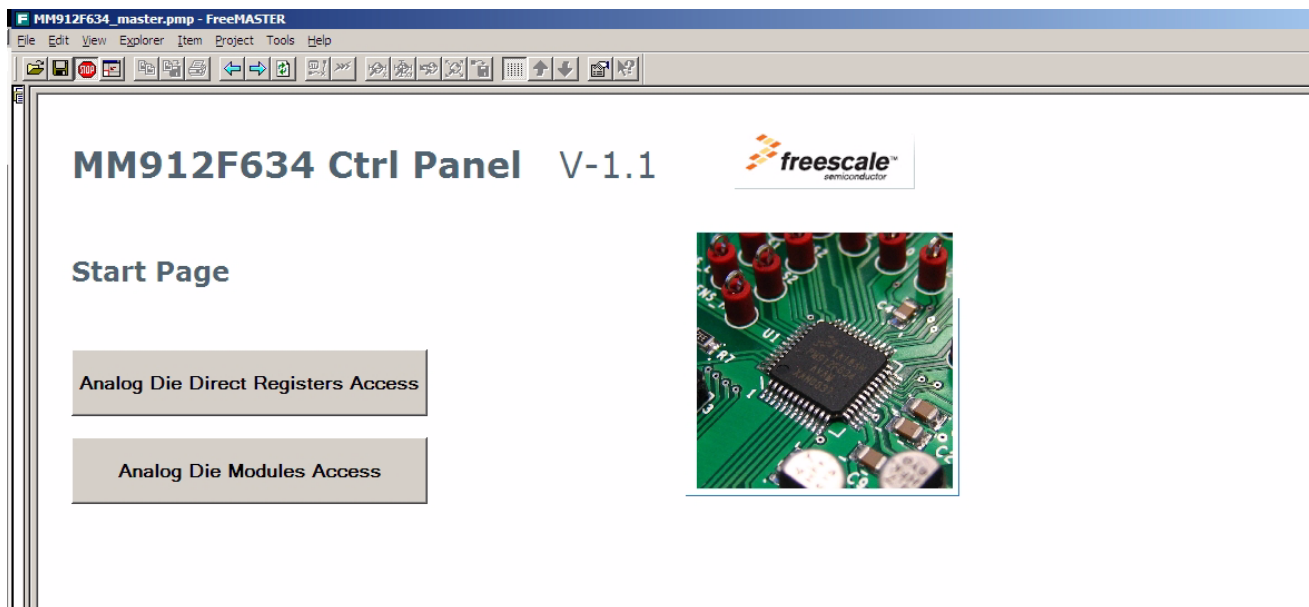

Figure 7. FreeMASTER Start Page
Figure 7 is a screen shot of the FreeMASTER PC application, as seen by the user after the opening of the **MM912F634_master.pmp** file. It is the start page, where the user can choose an approach to the analog die registers. The first possibility is "Die Direct Register Access", and the second is "Analog Die Modules Access". Both control pages will be described in the following paragraphs.
- If the start control page does not look the same as depicted in the Figure 7, but the following information appears on the screen, then there is a problem with the location of the source files.